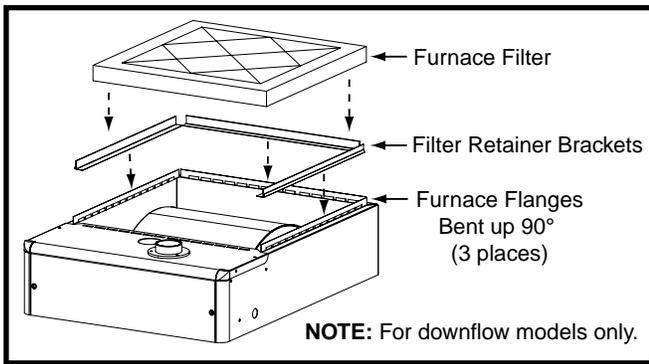

Figure 32. Filter Retainer Brackets
1. Bend the rear, right and left side furnace flanges upward 90° with a pair of wide duct pliers. See Figure 32 (page 24).